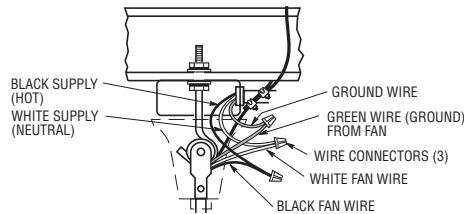

Figure 9
- 1. Connect the green grounding wire from the fan motor to the green grounding wire from the supply source. Securely connect wires with wire connectors supplied. (See Figure 9.)
- 2. Securely connect the fan motor white wire to the supply white (neutral) wire using a wire connector supplied (Figure 9). Securely connect the fan motor black wire to the supply black (hot) wire using wire connector supplied. After connections have been made, turn leads upward and carefully push leads into the outlet box, with the white and green leads on one side of the outlet box and the black leads on the other side of the outlet box.